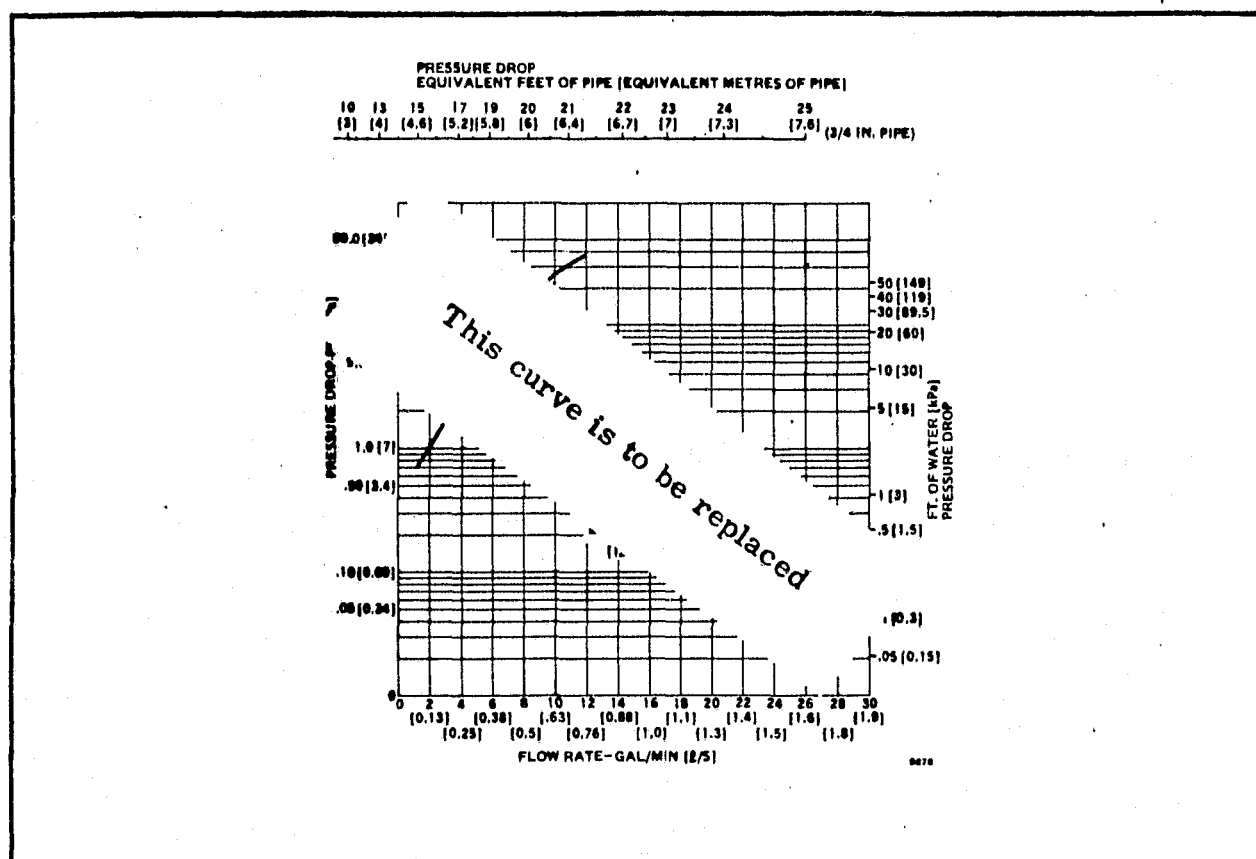

FIG. 2-FLOW CHARACTERISTICS OF Y534A DUAL DIVERTING VALVES.
The pressure drop in psi [kPa], equivalent feet [metres] of pipe, or feet of water [kPa] may be determined by calculating the flow rate, referring to Fig. 2, and using the following procedures.
1. Locate the flow rate at the bottom of the graph in Fig. 2.